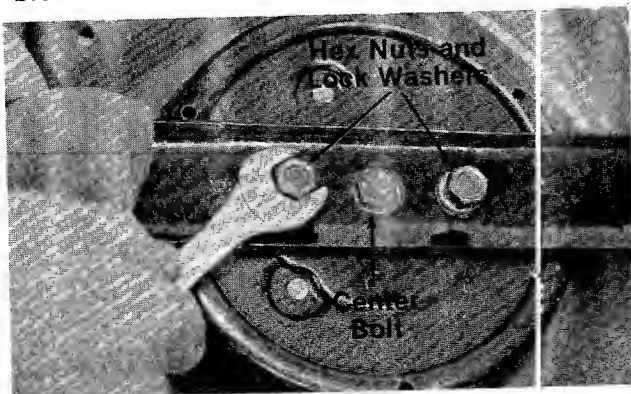

FIGURE 19.
To remove the cutting blade for sharpening or replacement, remove the two hex nuts and lock washers which hold the blade to the blade brake/clutch. See figure 19.
9. Tip the mower on its side. Remove the blade by removing two hex nuts and lock washers. Refer to figure 19.